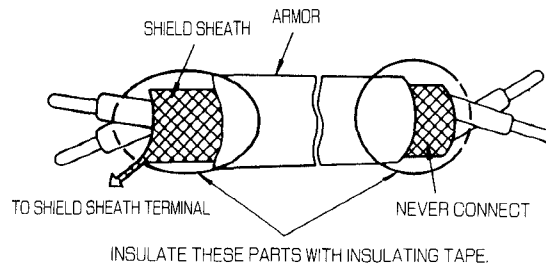

Fig. 4.13 Shielded Lead Termination
- (1) Control signal leads (ICN to 3CN) must be separated from main circuit leads (R, S, T, U, V, W) and other power lines and power supply lines to prevent erroneous operation caused by noise interference.
- (2) When a twisted shielded lead is used for the control signal line, the terminal must be insulated as shown in Fig. 4.13, except for the motor encoder signal line between the inverter and the motor which must be connected on both ends because the encoder signal line in the motor is a multicore shielded cable. The extension of the control signal line including the encoder signal line must be 20 m or less.